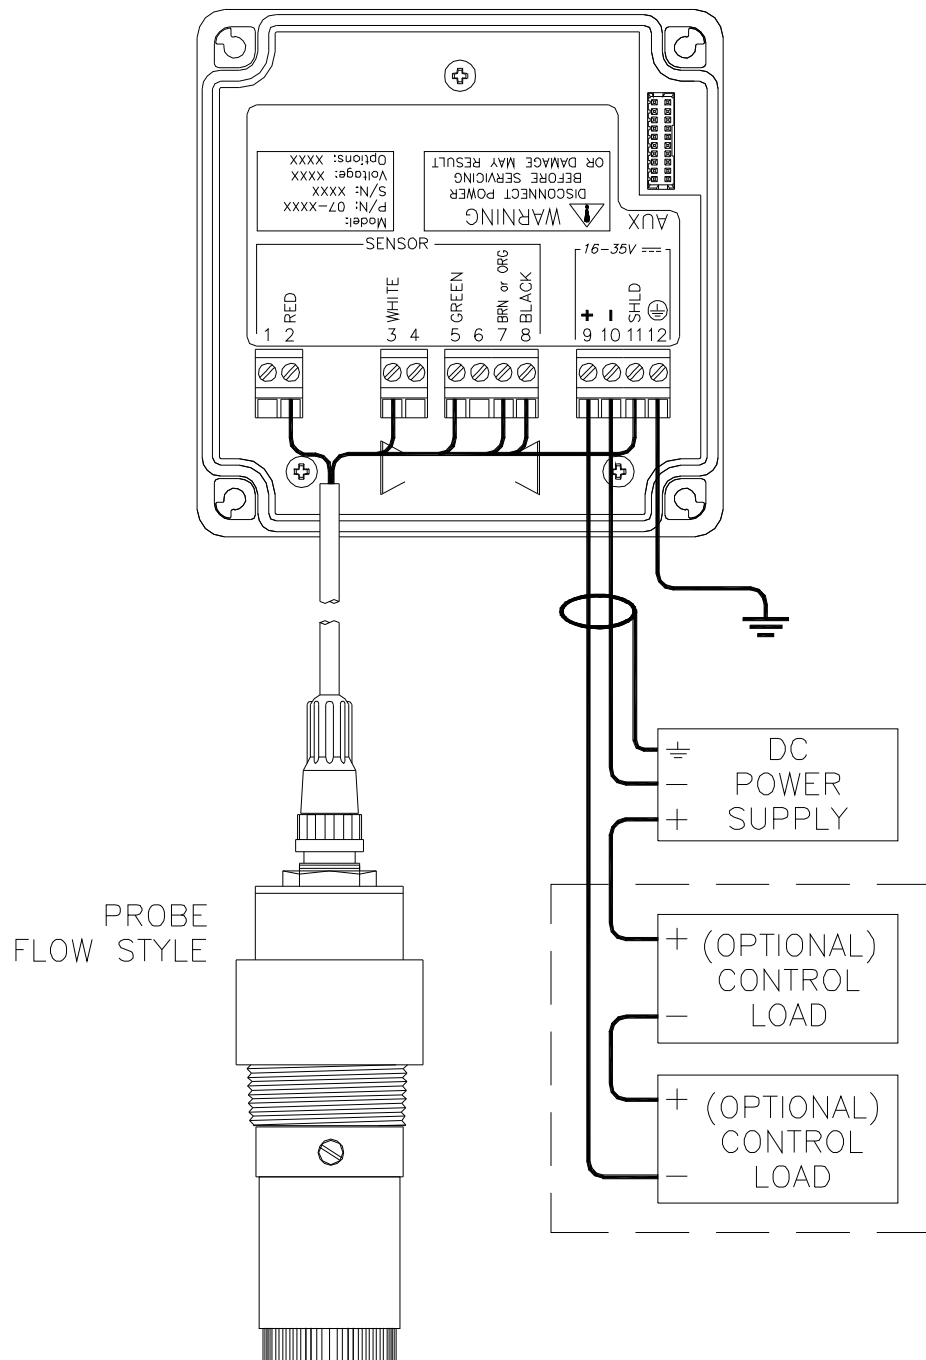

Figure 4-1 Loop-Power Connection
1. Use wiring practices that conform to all national, state and local electrical codes. For proper safety as well as stable measuring performance, it is important that the earth ground connection be made to a solid ground point from terminal 12 (Figure 4-1). The AC power supply in the transmitter, contains a single 100mA slo-blo fuse. The fuse is located adjacent to **TB5** and is easily replaceable.
In the two-wire configuration, a separate DC power supply must be used to power the instrument. The exact connection of this power supply is dependent on the control system into which the instrument will connect. See Figure 4-1 for further details. Any twisted pair shielded cable can be used for connection of the instrument to the power supply. Route signal cable away from AC power lines, adjustable frequency drives, motors, or other noisy electrical signal lines. Do not run sensor or signal cables in conduit that contains AC power lines or motor leads.
Sensor connections are made in accordance with Figure 4-1. The sensor cable can be routed into the enclosure through one of cord-grips supplied with the unit. Routing sensor wiring through conduit is only recommended if a junction box is to be used. Some loose cable is needed near the installation point so that the sensor can be inserted and removed easily from the flowcell.